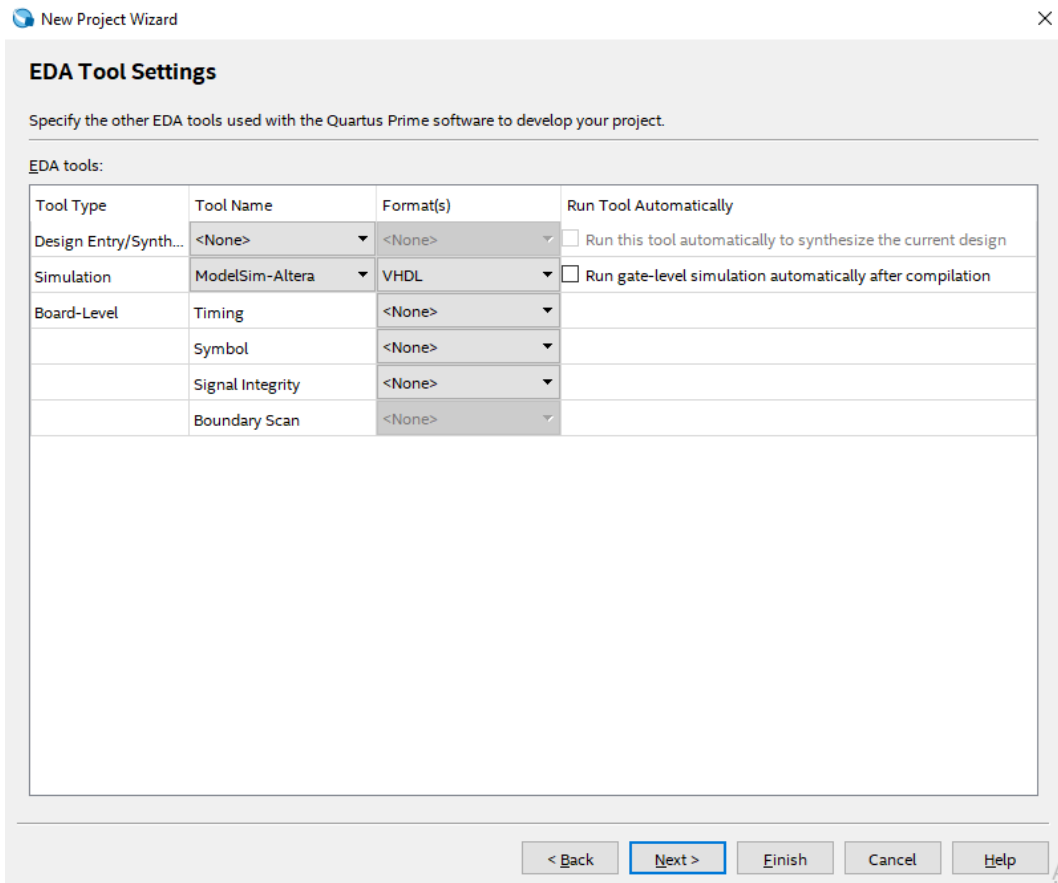

Figure 6: Quartus EDA tool settings page
- In the 'Page 5' window, you will be asked to select a simulation tool. From drop down menu in Tool Name column, corresponding to the Tool Type simulation select Modelsim-Altera, refer figure 6. From formats drop down menu select the language, in our case VHDL. Click Next